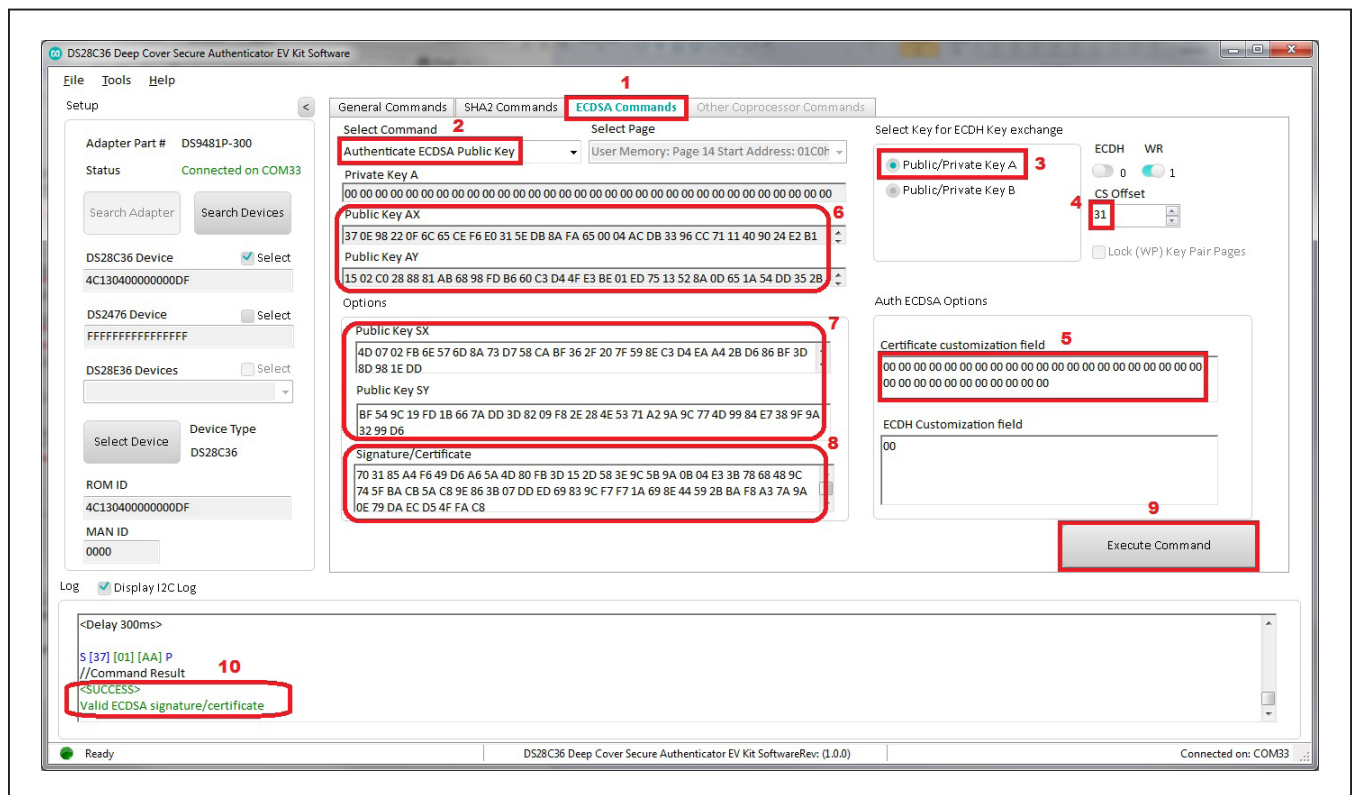

Figure 27. Authenticate ECDSA Public Key with Master's Public Key Certificate
- 6) Write the master public key to public key S with the **Write Memory** and perform Authenticate ECDSA Public Key with the Master's public key certificate (this sets W_PUB_KEY to allow public S to authenticate writes), as shown in Figure 27. Select the **ECDSA Commands** tab. From the **Select Command** drop-down list, choose the **Authenticate ECDSA Public Key** command. Choose the **Public/Private Key A** radio button, and set the **CS Offset** field value to 31 (i.e., 32-byte length). Confirm that field values **Public Key AX/AY**, **Public Key SX/SY** and the **Signature/Certificate** are correct. **Note:** If the values are incorrect, then reread or write the correct values using the **General Commands** tab to correct the issue with the **Read/Write Memory** commands. Lastly, click the **Execute Command** button and confirm that the text in the **Log** displays **<SUCCESS>**.